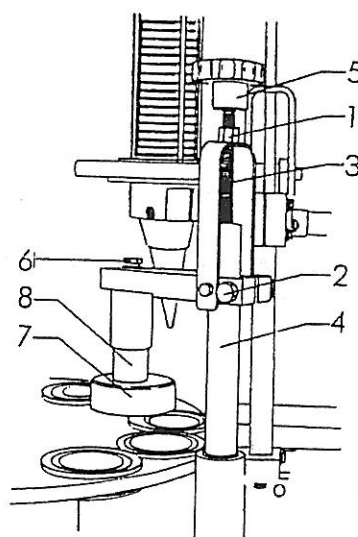

Fig. 10.1.13
- Mount the press in place of the closing device and lock it using the same screw 2 fig. 10.1.13.
- Unscrew screw 2 fig. 10.1.13 and remove the closing device 7;